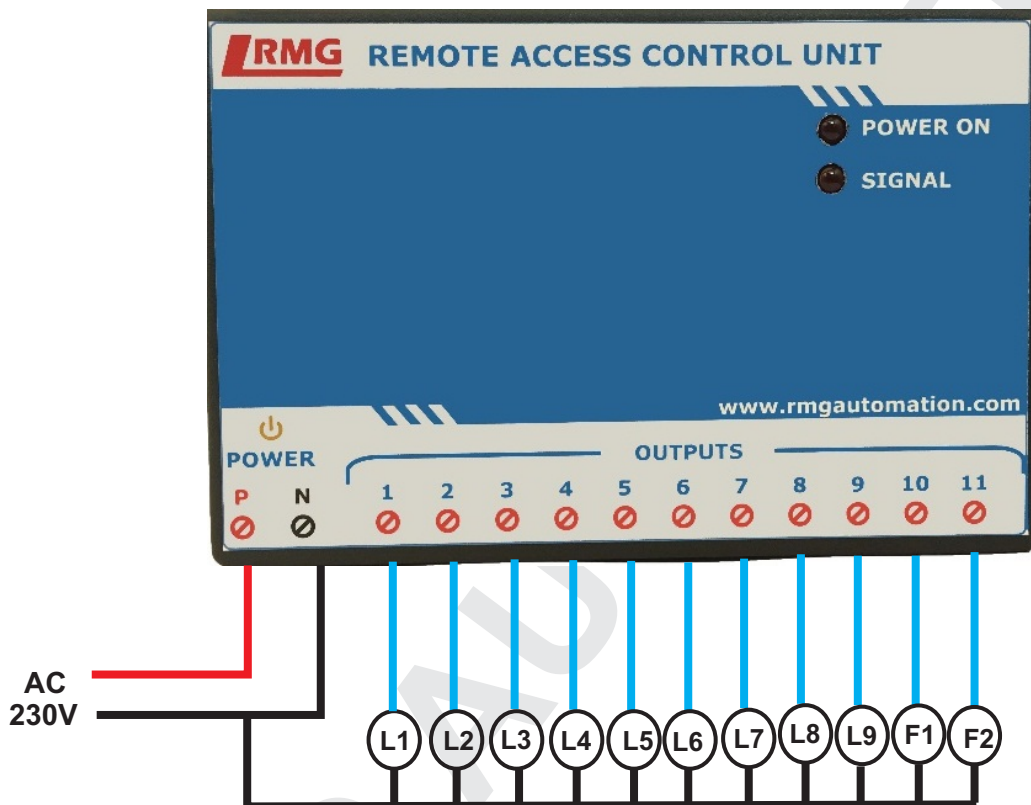

Figure1: Power & Load connection
Step 2: connect AC 230V supply to red and black wire of refer figure 1.
Step 3: connect each blue wire from Relay switch to phase lines of the loads and connect each load's neutral line to neutral line of Relay Switch (Refer Figure. 1). First 8 channel (outputs 1,2,3,4,5,6,7,8,9) gives electromagnetic relay outputs which can be used to connected lights and bulbs remaining 2 channel (outputs 10,11) gives triac outputs which can be used to connect fans. This completes installation.